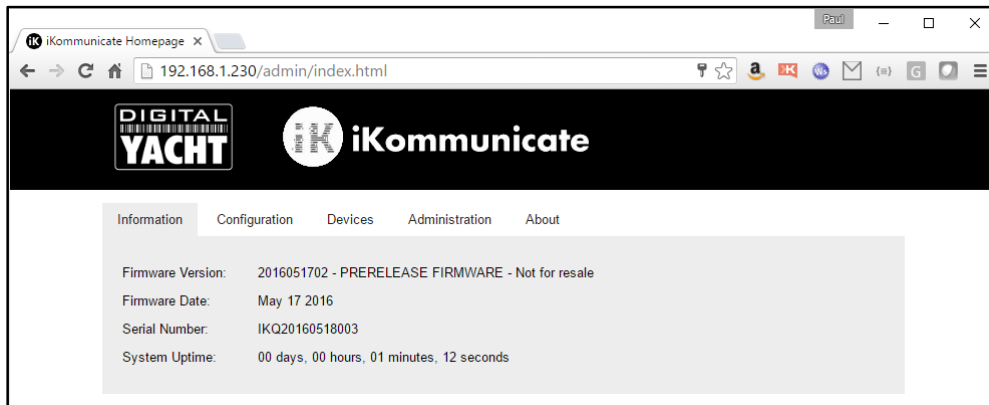

Figure 3
- The password to login to the “Admin Page” is **admin** and once logged in you will see the page shown in Fig 3.